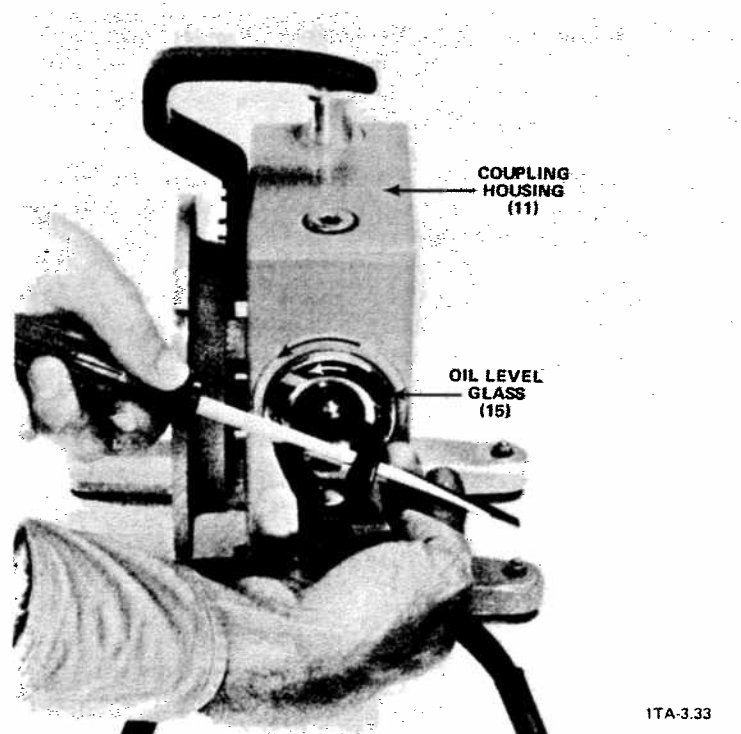

Figure 5-16. Removing the Oil Level Glass (15) From the Coupling Housing (D2A Pump Model Shown)
Method (2) — Place the nose ends of a large pair of snap ring pliers into the two holes in the assembly (15); insert a screwdriver or small bar between the nose ends of the snap ring pliers; use the screwdriver or bar to force the pliers and the assembly to turn counterclockwise; unscrew the assembly from the coupling housing (see Figure 5-16).